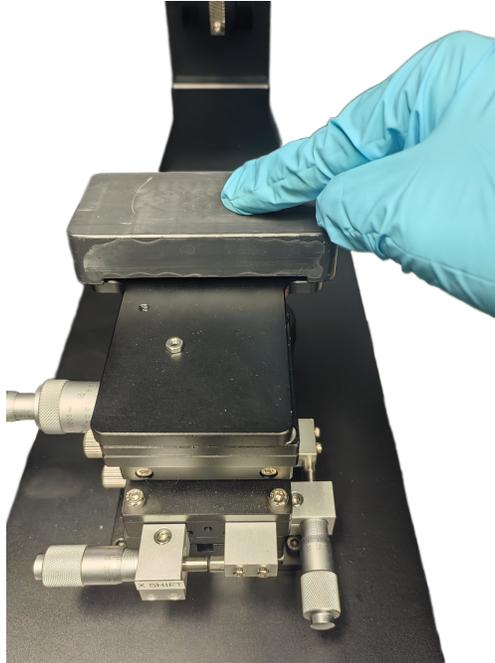

Figure 35: Cover the slide with the stage cover.
4. Carefully place a prepared sample slide on the stage holder with the coverslip facing down toward the objective. **Cover the slide with the stage cover** (Figure 35) - this is important to minimise detection of ambient light in the room.